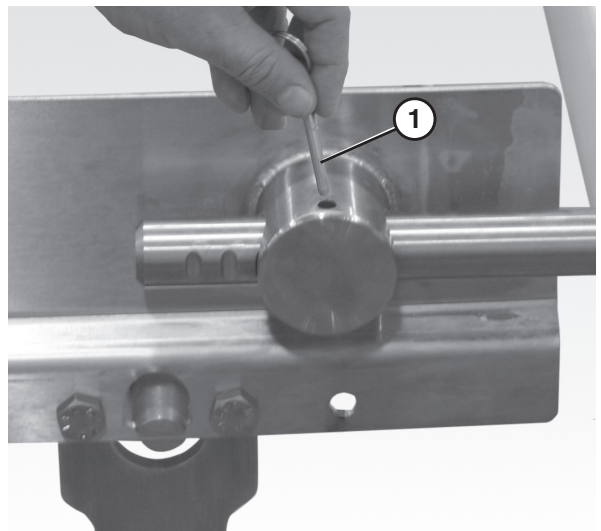

**Figure 75**
- Remove the nose bar wear strip (**Figure 75, item 3**).
- Slide the nose bar pucks (**Figure 75, item 1**) off the nose bar shaft (**Figure 75, item 2**).